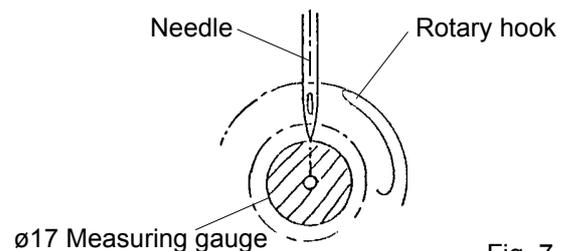

Fig. 7
6. Check the needle depth on all needles. Pull white plastic  $\varnothing 17$  measuring gauge in and out of rotary hook in fig. 7. If height gauge brushes lightly against tip of needle, needle height is correct. If not, loosen needle bar block screw to adjust, then re-tighten after adjustment. (Remove the gauge when finished). Note: Height gauge is contained in tool box.